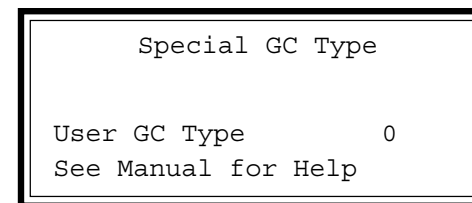

Figure 6-20 Special GC Type Screen
2. If your GC is not standard, select User. Press any number key to select User as the GC Port, then press the NEXT PAGE key to display the Special GC Type screen (Figure 6-20).